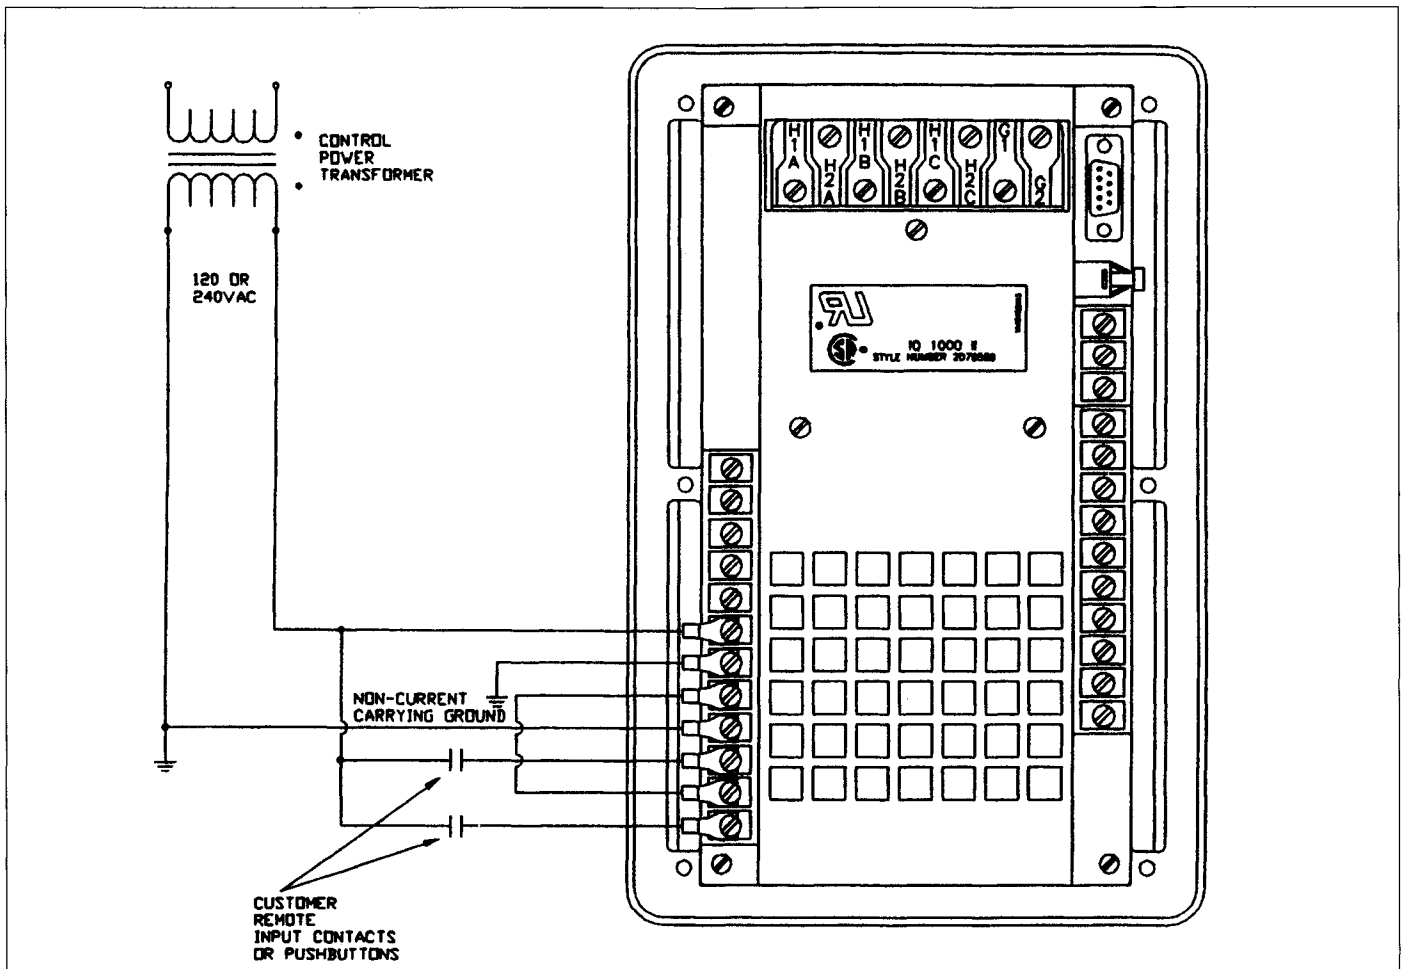

Fig. 5.11 IQ-1000 II Remote Input Wiring for 120 or 240 VAC Control Power
- The IQ-1000 II accepts either 120 or 240 VAC inputs for control power or remote inputs (see Figure 5.11). All input relays are rated for 120 or 240 VAC with the exception of the Incomplete Sequence and Remote Trip/Reset terminals, which are rated for 120 VAC ONLY.
NOTE: If 240 VAC control power is being applied, and Incomplete Sequence option and/or Remote Input option is being used, verify that only 120 VAC will be present across terminals 8 and 9 and terminals 9 and 10. See Paragraph 5.2, Wiring— General and Figure 5.11 for additional 240 VAC wiring information.